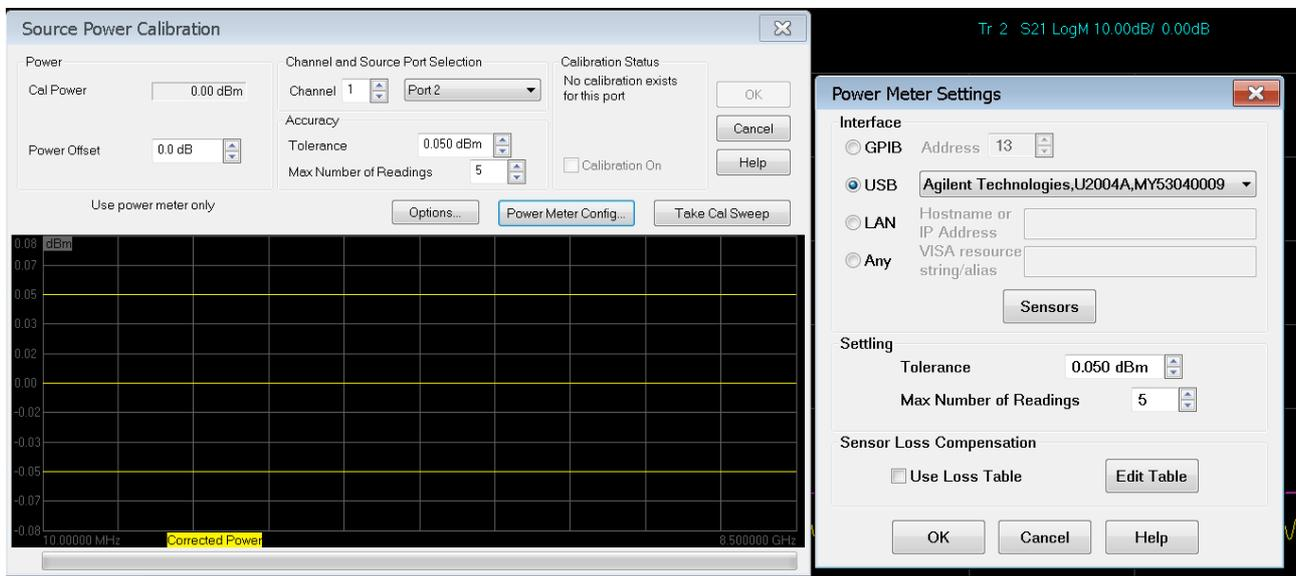

Figure 4 – PNA-X Source Power Calibration and Power Meter Settings menu.
- i. Options → Use Power Meter (Select: Calib the PNA ref. receiver, see Figure 4) → OK